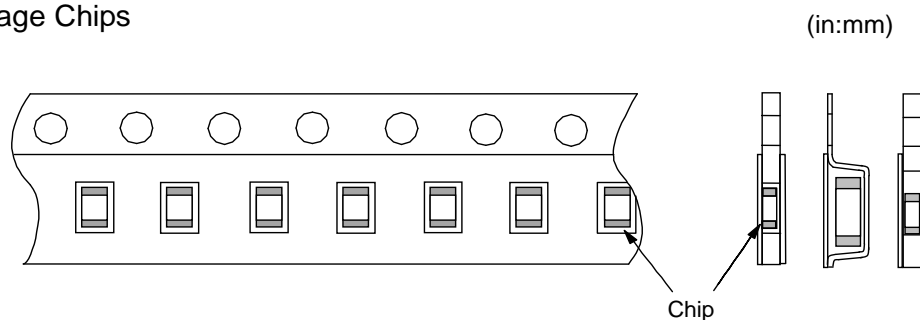

Fig.2 Dimensions of Reel
1.11 Reel is made by resin and appeaser and dimension is shown in Fig 2.